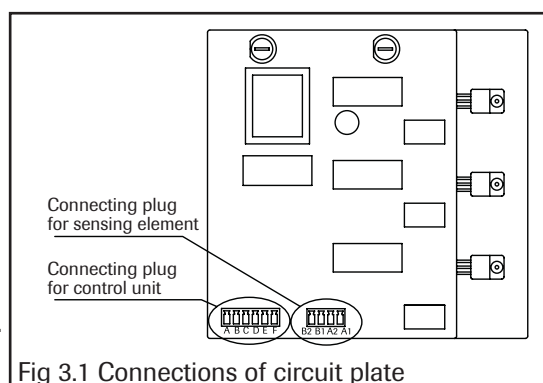

Fig 3.1 Connections of circuit plate
- There is socket for control unit and element. Put sockets for connection plugs. (Fig. 3.1)